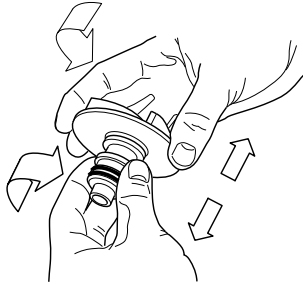

Figure 9
8. Carefully remove rotating half of seal (Key No. 10) from impeller sleeve. Twist as you pull; make sure you do not damage surface of sleeve where seal both seats and seals. See Figure 9.